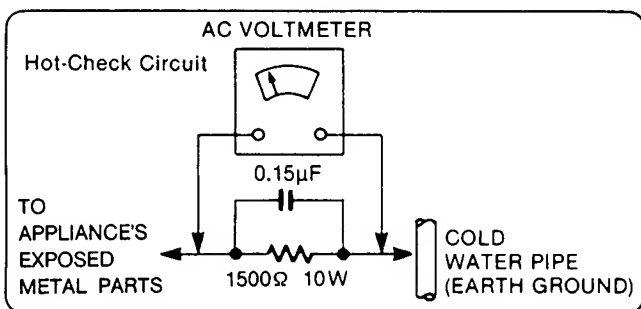

Figure 1
LEAKAGE CURRENT HOT CHECK (See Figure 1)
2. Connect a 1.5k ohm, 10 watts resistor, in parallel with a 0.15μF capacitor, between each exposed metallic part on the set and a good earth ground such as a water pipe, as shown in Figure 1.